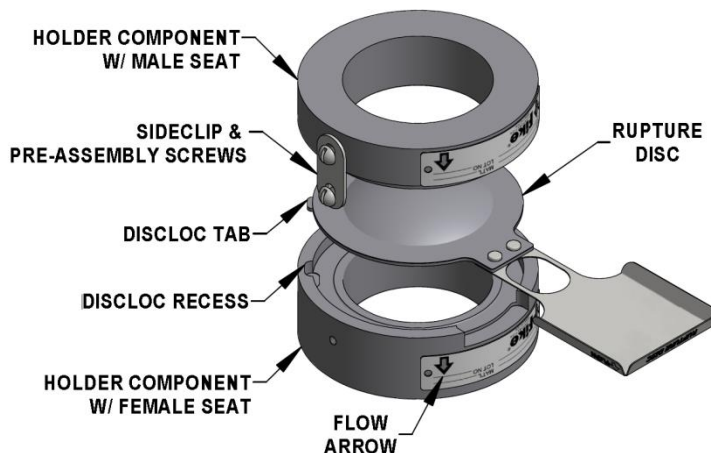

Figure 4 - Insert Holder
1. Place holder component with female seat on a work surface (See Figures 4, 5, & 6).